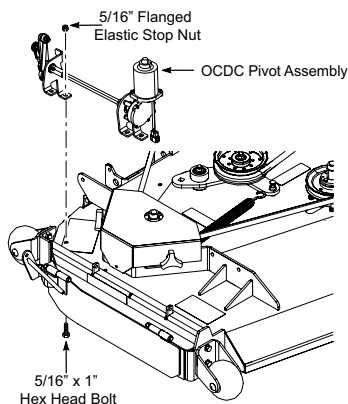

Figure 3-6.
18. Install the E-OCDC pivot assembly to the cutter deck. Secure using one (1) 5/16-18 x 1" bolt and one (1) 5/16-18 flanged elastic stop nut. Do not tighten hardware at this time. See Figure 3-6.
19. Using the E-OCDC pivot assembly as a guide, locate and drill the required holes in the discharge chute mounting rail and cutter deck using an 11/32" drill bit. See Figure 3-6.